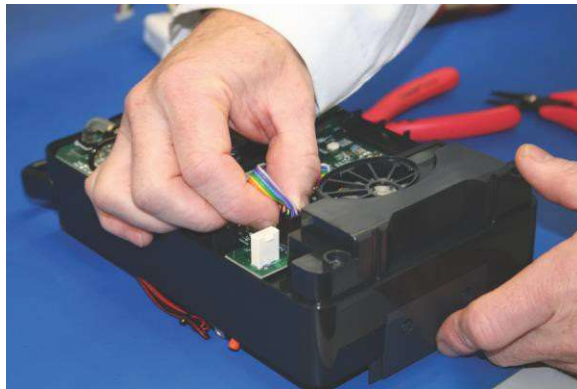

Figure 5.5
4. Disconnect the 8-pin connector (J5) with multi-color wires from the circuit board. Care must be taken not to pull on wires. (See Figure 5.5.)